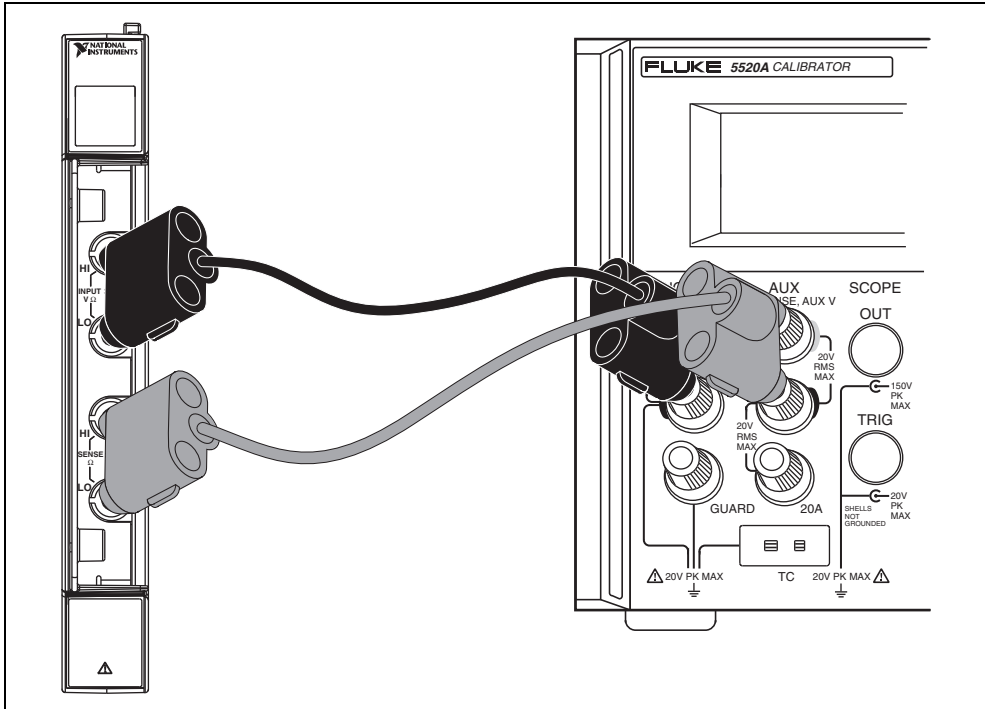

Figure 2. CAL-4353 to Fluke 5520A Calibrator Connections
1. Using banana-jack terminated copper wire, connect the positive and negative terminals of the resistance calibrator to the INPUT V Ω HI and LO inputs of the CAL-4353. Also connect the SENSE Ω HI and LO terminals of the CAL-4353 to the Sense HI and LO terminals of the resistance calibrator while referring to Figure 2.
1. Using banana-jack terminated copper wire, connect the positive and negative terminals of the INPUT V Ω HI and LO terminals of the CAL-4353 to the Fluke 5520A or equivalent calibrator. Connect the SENSE Ω HI and LO terminals of the CAL-4353 to the calibrator Sense HI and LO terminals while referring to Figure 2.